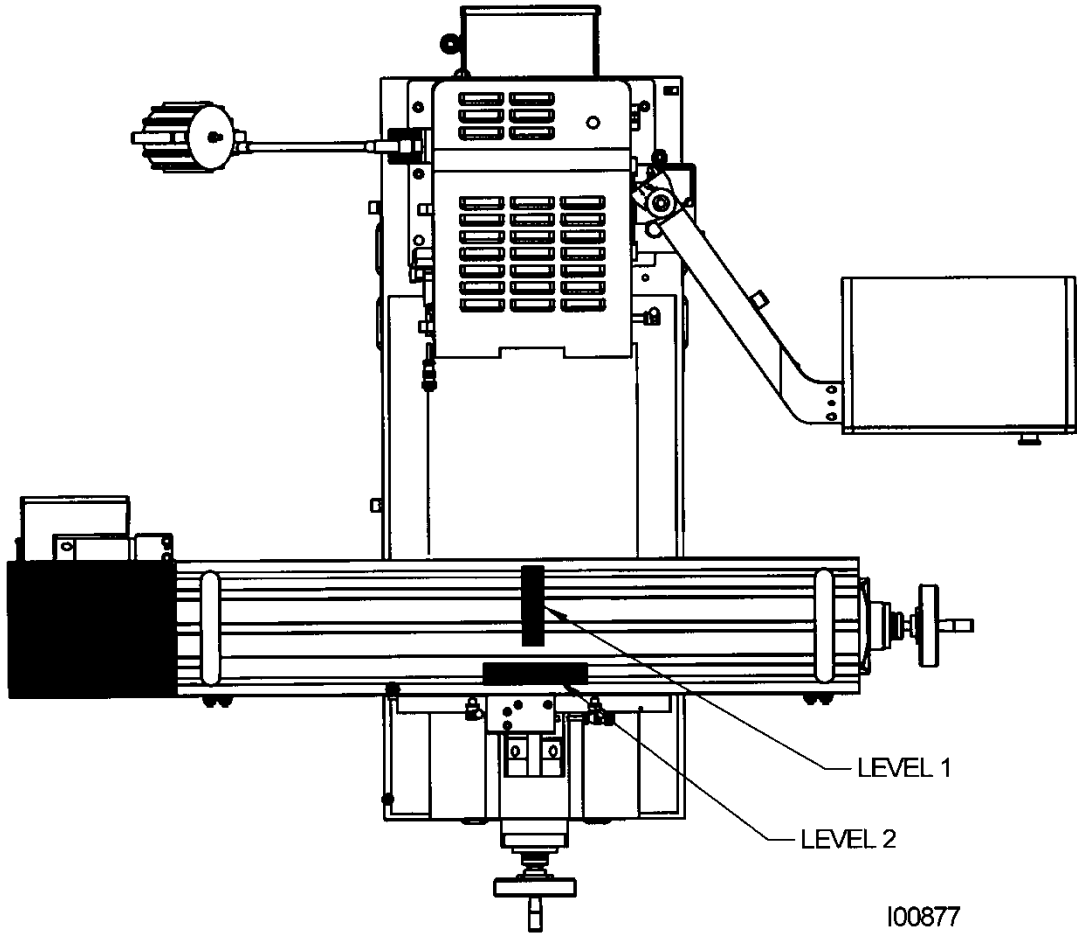

Figure 6A - Placement of Levels
2. Put one or two precision Spirit Levels or Electronic Levels in the center of the table in the positions illustrated in Figure 6A.